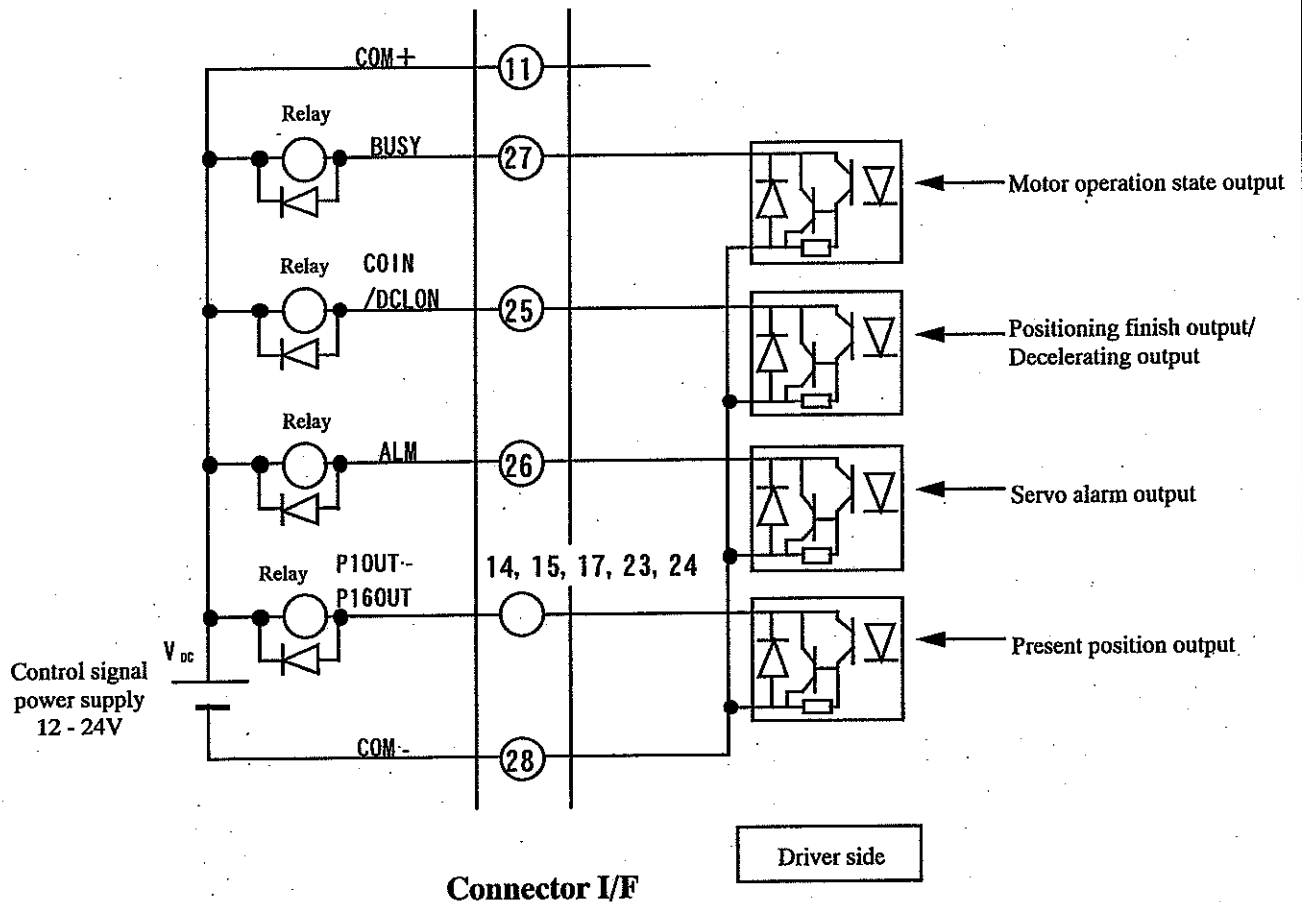

Fig. 7-2 Control output
- (1) Prepare the power supply (V_{DC}) for the control signal at your side. (DC12 - 24V, 0.5A or more)
- (2) Pay attention for the polarity of V_{DC} . Reversed polarity of the above figure 7-2 for the connection will damage the position driver.
- (3) In case of directly driving a relay with each output signal, install a diode in parallel to the relay as shown in Fig. 7-2. If you do not install a diode or install it in the reverse direction, the position driver will be damaged.
- (4) When each output signal is received by a logic circuit such as a gate, be sure to avoid influence by the noise.
- (5) The current fed to each output should be 50mA or less.